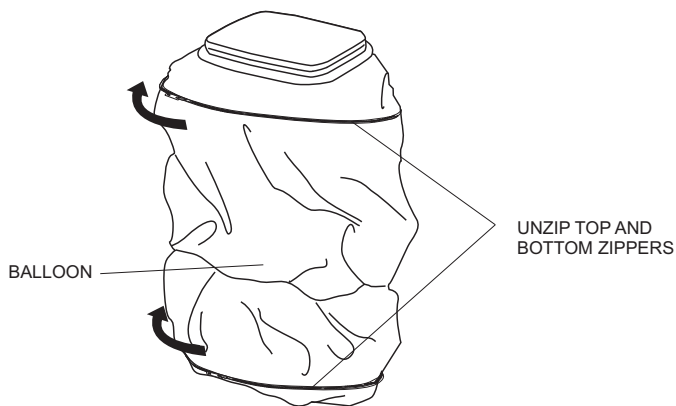

Figure 40. Unzipping Balloon
1. Unzip the top and bottom of the balloon. See Figure 40.